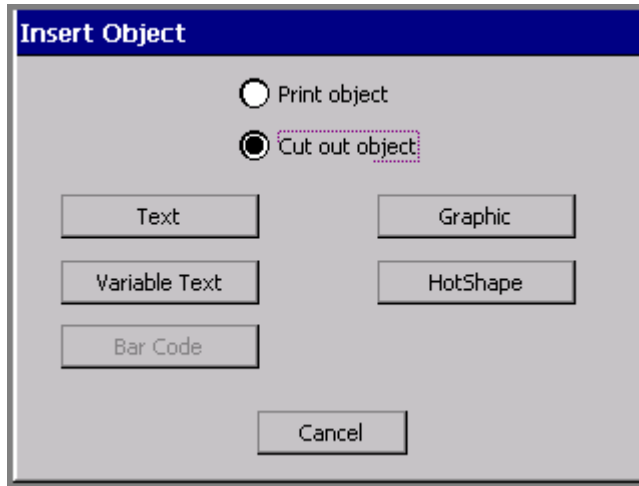

Figure 10-1. The Insert Object screen on the Color & Cut system.
2. On the **Insert Object** screen (Figure 10-1), choose **Cut out object**.
1. After selecting the **Cut out object** option on the **Insert Objects** screen (Figure 10-1 on page 10-4), choose **HotShapes**.